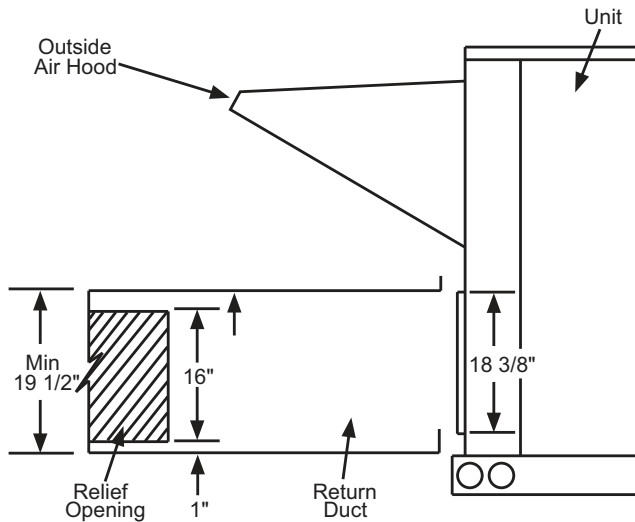

Fig. 20 — Relief Damper
1. Install the field provided horizontal ductwork onto the unit. Duct height must be at least 19-1/2 inches high, however the duct can be no taller than the top of the relief opening in the bottom panel, or airflow into the outside air hood will be restricted. (See Fig. 20.)
2. Cut a 16 in. x 36 in. opening in the return duct for the relief damper (see Fig. 20).